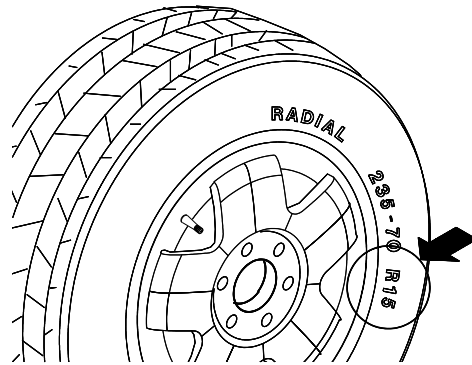

Figure 24
4.5.3.0 Manual Rim Diameter Entry - Select the Manual Diameter button (#11 page 9). Read the rim diameter marked on the sidewall of the tire (Figure 24). Press the Diameter Button and enter the measured rim diameter by rotating the shaft until the desired value appears in the right display.